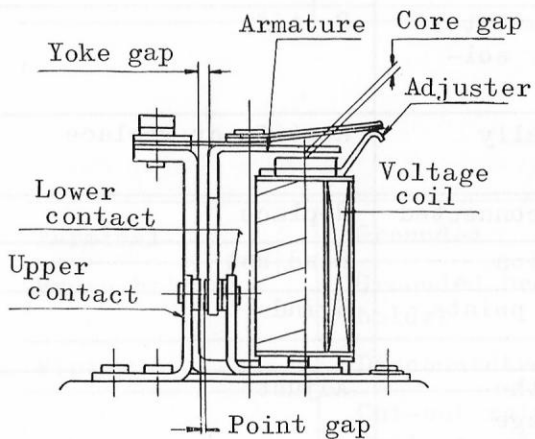

Fig. 10-53
(2) Check and adjust all the contact points gaps in the sequence of 1) yoke gap, 2) core gap and 3) points gap. (See Fig. 10-53)
(3) Yoke gap